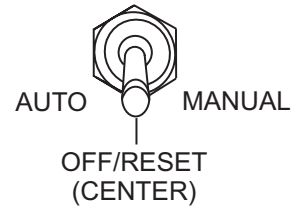

Figure 96. Auto Start/Stop Switch (Off/Reset)
7. Place the **Auto Start/Stop switch** (Figure 96) in the **OFF/RESET** position.